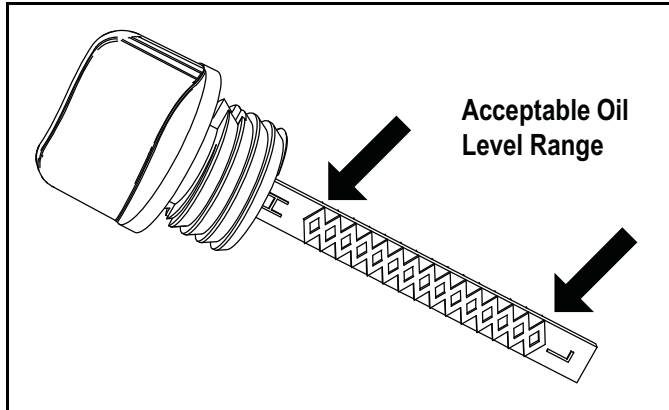

Figure 4-9. Dipstick
4. Check periodically until the oil level is between "L" and "H" on the dipstick (Figure 4-9). Do not overfill.